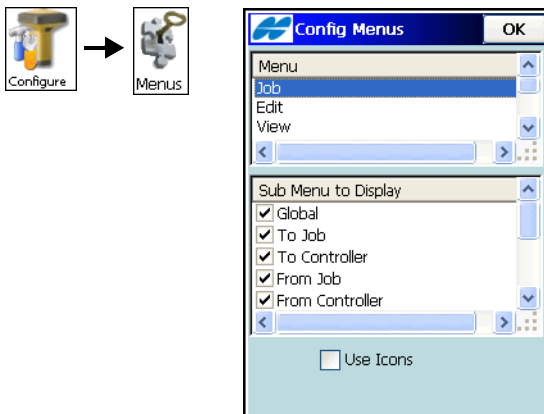

Figure 4-100. Config Menu
2. On the *Config Menu* screen (Figure 4-100), select the desired menu from the Menu list and choose the necessary options from the **Sub Menu to Display** list.